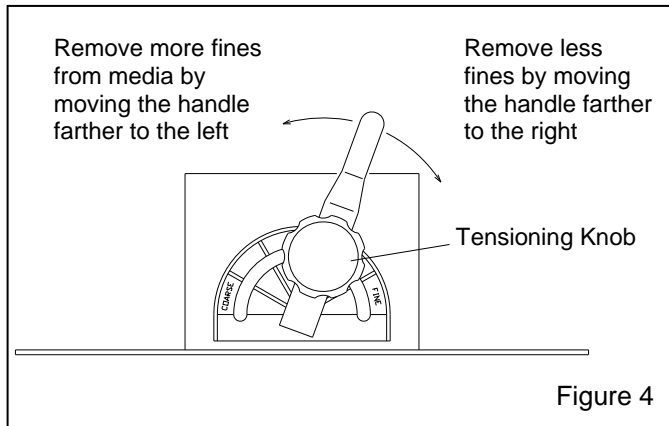

Figure 4
10.3.1 Adjustments are made by loosening the handle's tensioning knob and moving the handle to achieve the correct setting. When the correct setting is established, tighten the tensioning knob to prevent movement. Start with the lever slightly to the right of the vertical, at about the one o'clock position as shown in Figure 4.